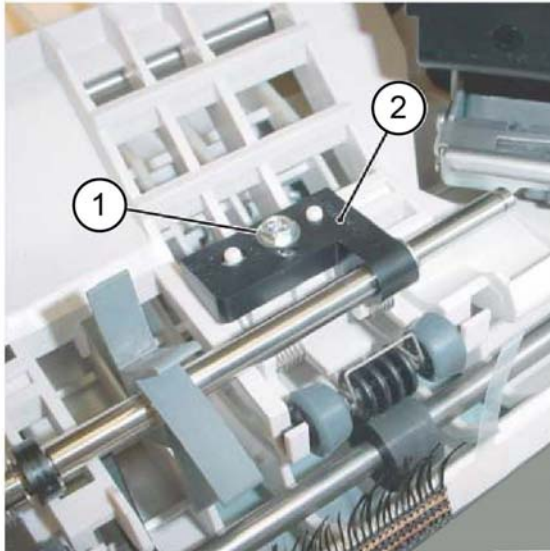

Figure 4 Support bearing removal
6. Remove the support bearing from the entrance lower chute assembly, Figure 4:
- a. Remove the self-tapping screw (1).
- b. Remove the support bearing (2).